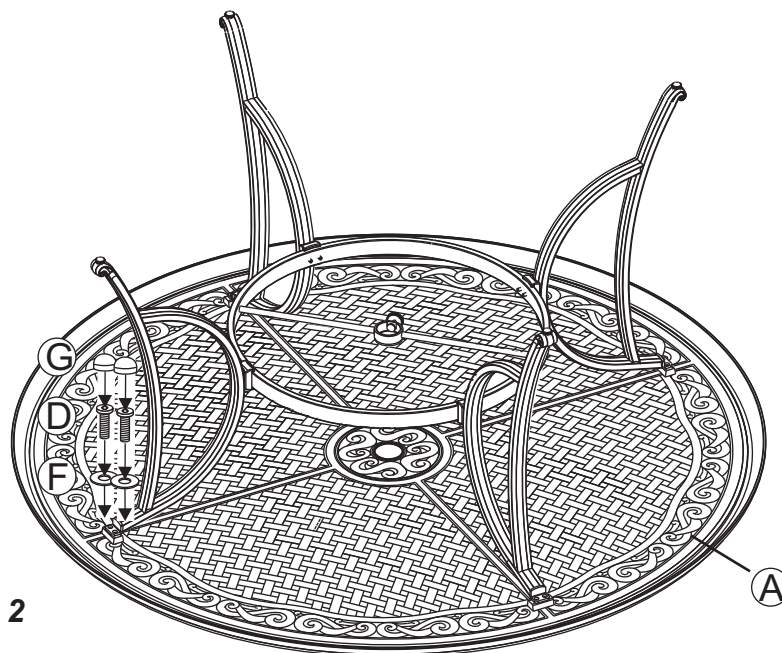

Figure 2
2 Critical Step: The "U" metal plates must be installed in the proper location. Read this step and carefully examine. Insert the "U" metal plate, so that the "U" bar and rocker plate are between both sides of the "U" metal plate. Make sure that the holes in the "U" metal plate are completely aligned with the holes in the "U" bar as shown in **Figure 2**. Guide the bolts through the holes on the top side of the "U" metal plate, through the holes in the "U" bar portion of the chair, through the holes in the rocker plate and then, most importantly, through the holes in the bottom side of the "U" metal plate. It is very important that the holes in the bottom portion of the "U" metal plate be placed directly beneath the holes in the rocker plate. Add a spring washer and a nut to each bolt as shown in **Figure 2**. **Hand tighten nuts 3-4 revolutions only.** Repeat the same procedure on the other side.
- 2 Place the table top upside down on a flat, non-abrasive surface. Attach a table leg to the table top by using the bolts and washers as shown in **Figure 2**. Guide the bolt through the hole in the table leg, into the pre-drilled holes in the table top. **Hand tighten only 2-3 turns**. Repeat for the other three legs.